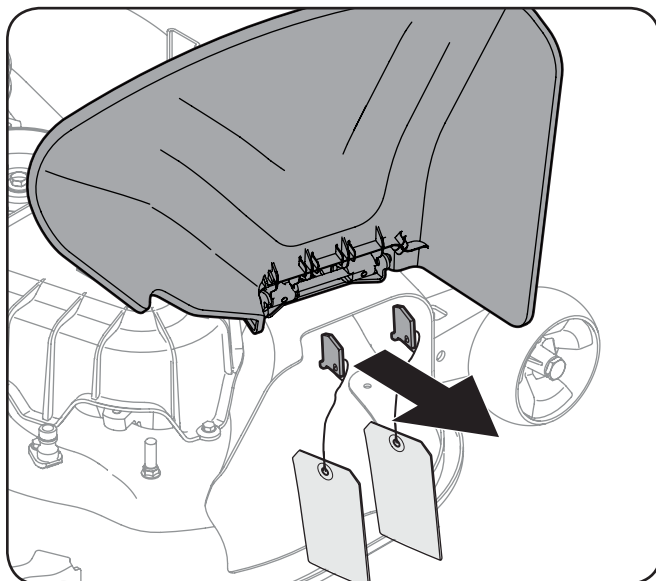

Figure 3-8
7. Holding the chute deflector fully upward, remove the stop bracket by grasping it and rotating it clockwise. Lower the chute deflector Figure 3-8.